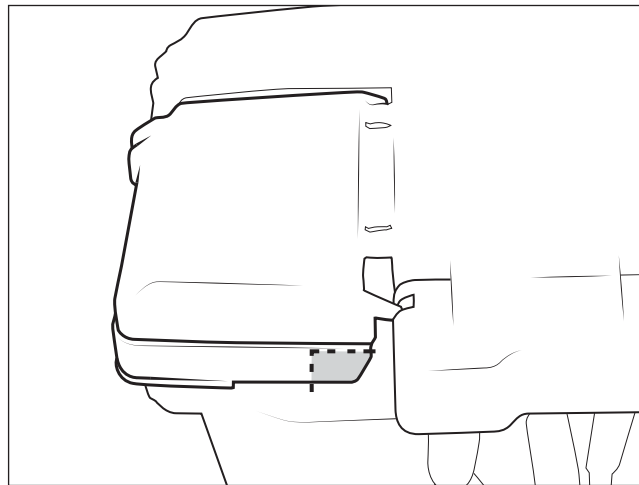

Figure 23
18. Trim the battery box and lid to make space for the positive winch connection (fig. 23).